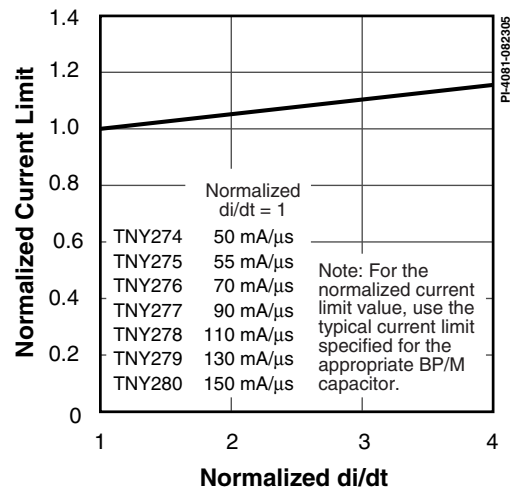

Figure 23. Current Limit vs.  $di/dt$ .
- E. For current limit at other  $di/dt$  values, refer to Figure 23.